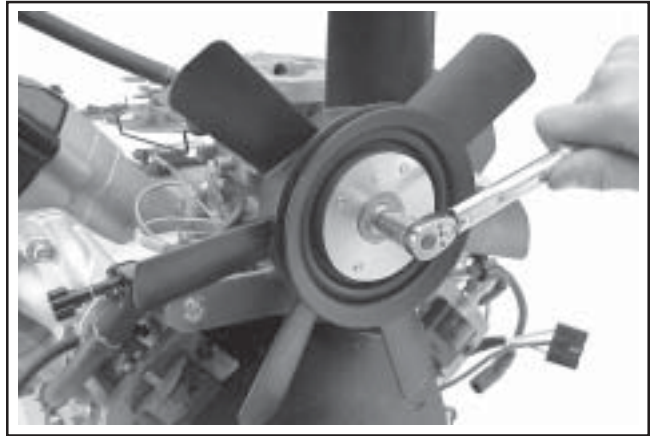

Figure 11-97. Torquing Upper Pulley Assembly.
7. Apply Loctite® No. 242 to the front threads of the fan shaft. Install the flat washer and the hex flange nut to secure. Torque hex flange nut to **15.8 N·m (140 in. lb.)**. See Figure 11-97.